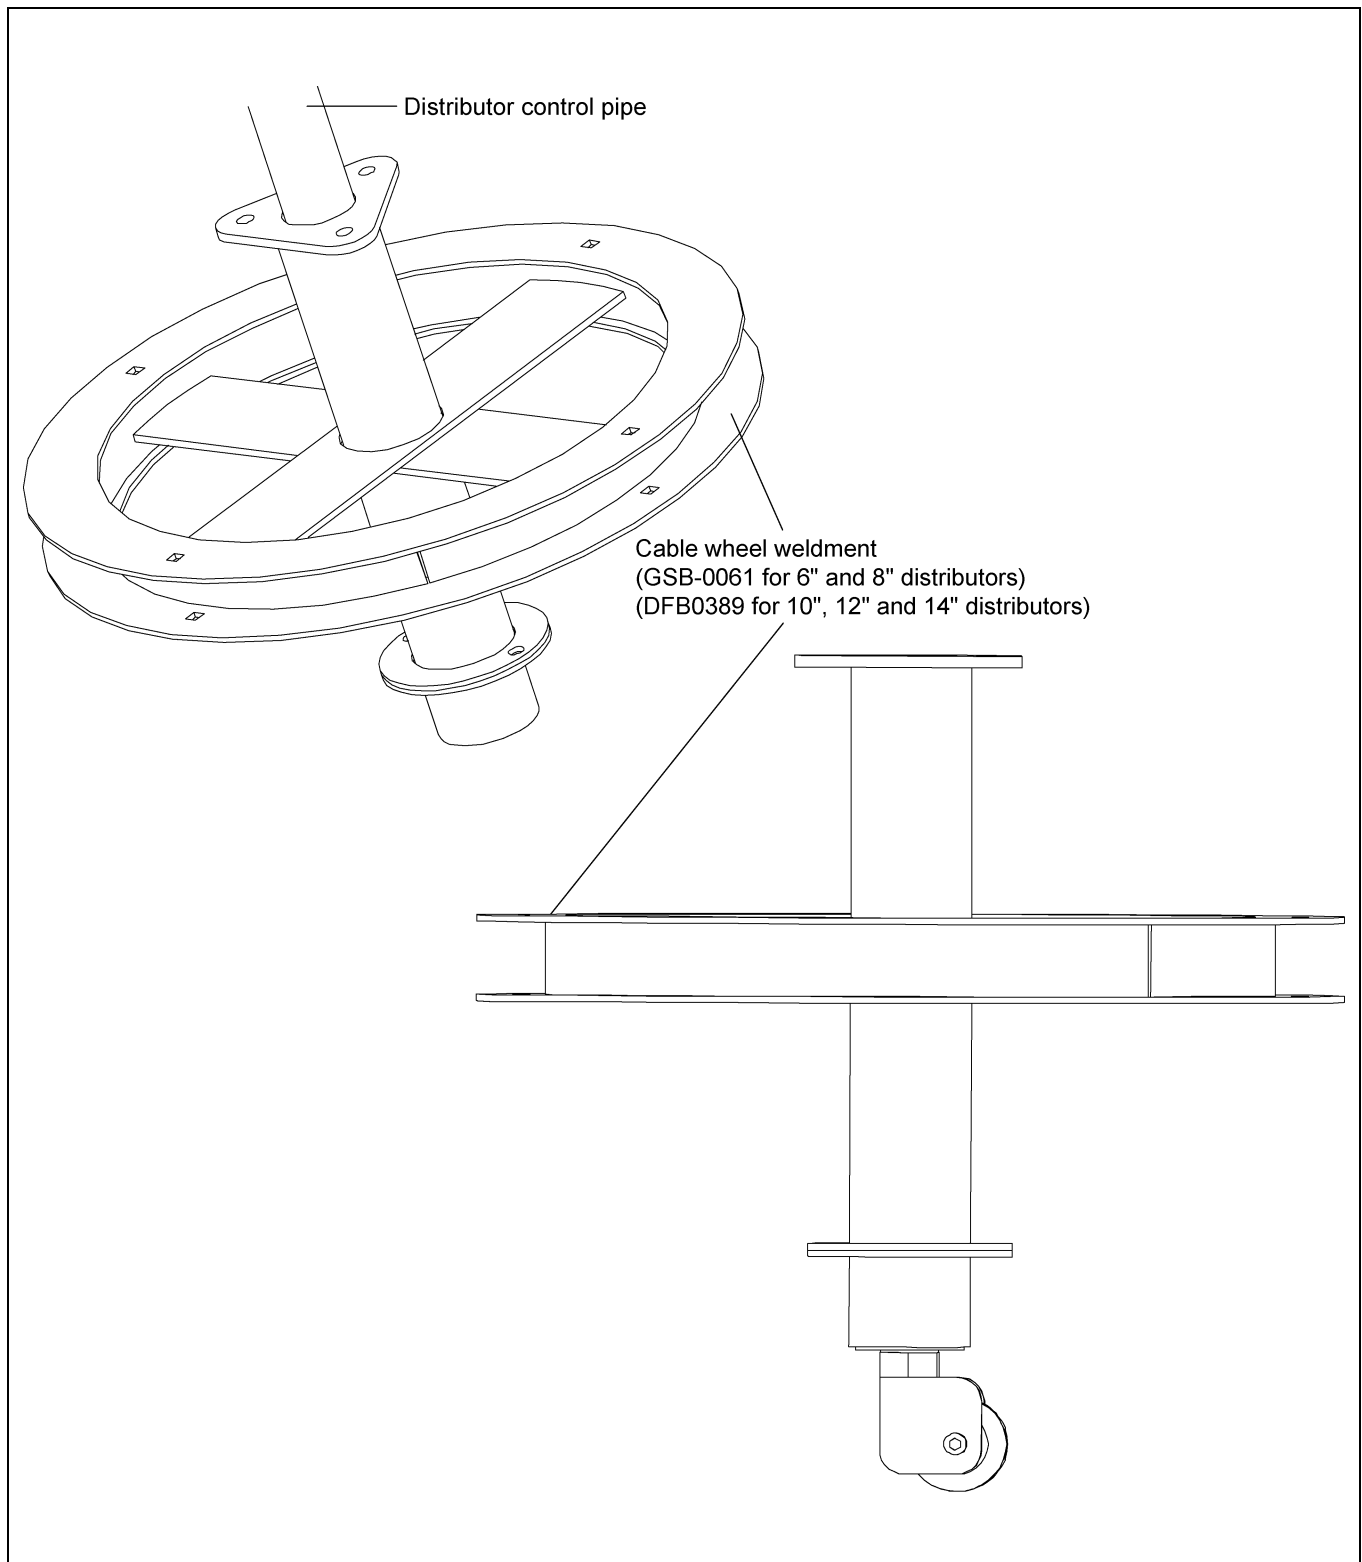

Figure 5A
Once the distributor has been installed, the cable controls can be installed. First, install the cable wheel. The cable wheel mounts to the control pipe coming from the bottom of the distributor using three (3) 3/8"-16 x 1-1/2" bolts (S-7521) and three (3) 3/8"-16 flange nuts (S-968). (See Figure 5A.)